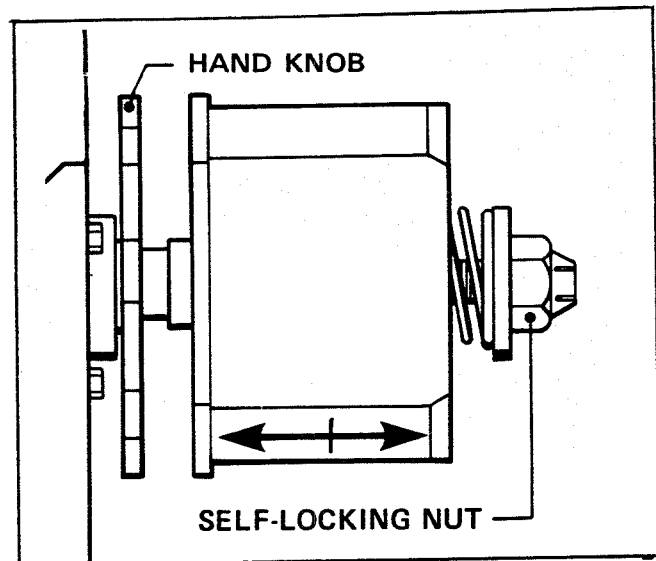

Figure 26
1. **Friction Brake** - Refer to Figure 26. Adjustable by turning self locking nut on shaft to vary compression of spring. Clockwise turning of nut increases braking force to prevent tape roll over travel, counterclockwise turning decreased braking force. Adjust to minimum drag that prevents excessive tape roll over travel.